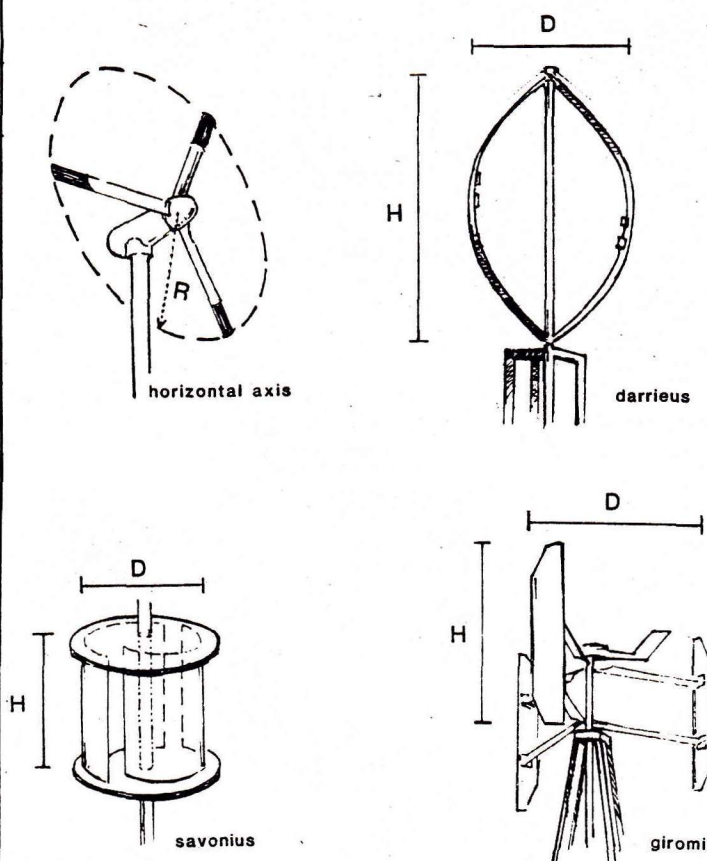

Figure 4. Illustration of dimensions of different types of WECS.
(2) The amount of wind energy available increases with the area of the rotor, but only around 30% to 35% of that energy (theoretical efficiency = 59%) will be converted to other forms of energy for end use (electrical, mechanical, thermal). Areas for different types of rotors (Fig.4) are: